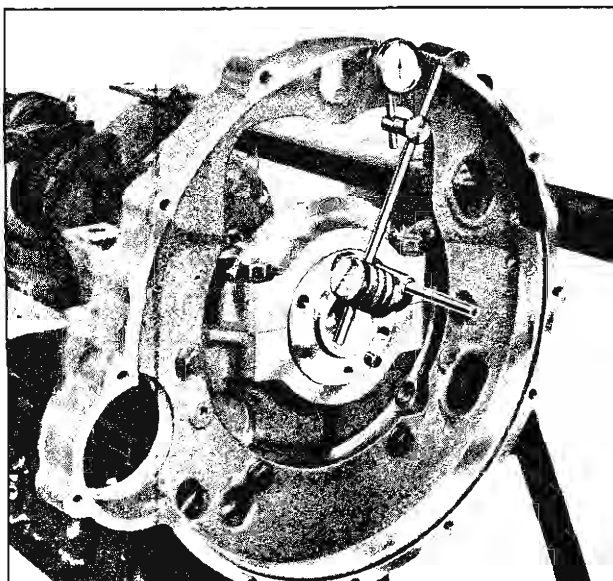

Fig. 52—Checking Face Parallelism
5. Install Tool J-8001 to indicator extension rod and set indicator to read zero at the six o'clock position on the flywheel housing face (fig. 52).